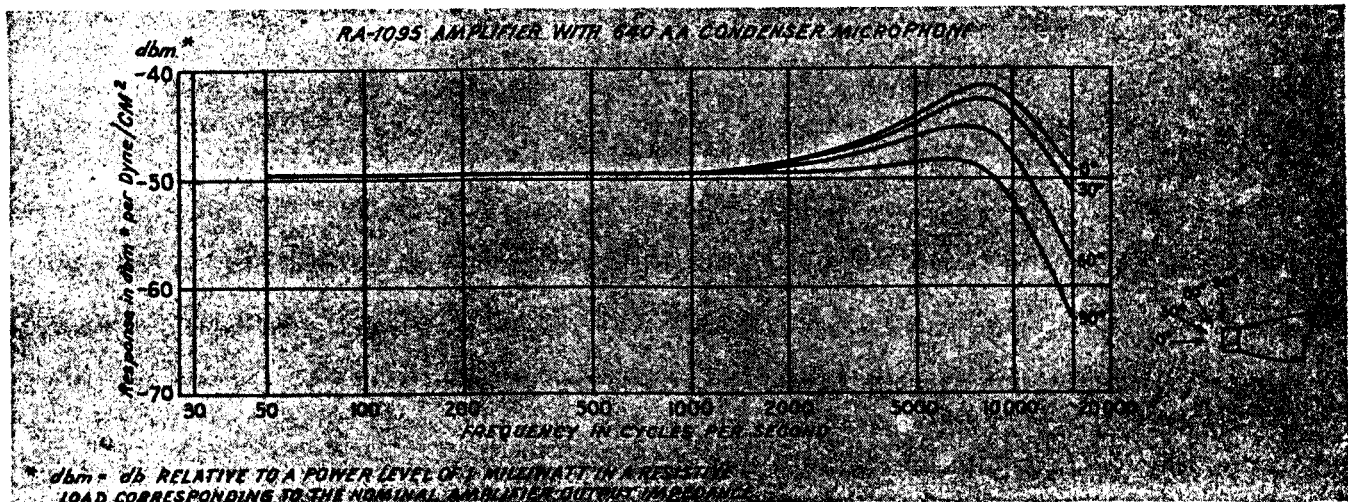

Figure 10 — Typical Free-Field Curve of 640AA Microphone mounted on the RA-1095 Amplifier.
Free-Field Response—See Figure 10.
The free-field response characteristics of the 640AA Microphone mounted on the RA-1095 Amplifier are shown in Figure 10. The difference in shape between the zero degree free-field curve, and the pressure calibration shown in Figure 9, is due almost entirely to diffraction effects which result when the microphone is placed in a free sound field, and not to the amplifier which has practically no effect on the shape of the response characteristic. The range covered, it will be noted, is admirably suited to the highest quality AM or FM program transmission requirements. With the line of sound approach normal, or perpendicular to the plane of the diaphragm, (0 degrees), the response is approximately constant for sounds in the frequency range between 50 and 1,000 cycles per second. Above 1,000 cycles the response rises gradually to a maximum of about 8 db at 8,000 cycles, then drops uniformly to a level which at 15,000 cycles per second is roughly equal to that at 1,000 cycles per second.
As illustrated in Figure 10, the response of the 640AA Microphone varies somewhat in the higher frequencies depending on the direction from which the sound wave approaches the diaphragm.
The output level of this efficient combination for a given sound field is about 28 db higher than the 639 type high quality studio microphones and the signal-to-noise ratio compares favorably (see specifications). The frequency response characteristic of the amplifier is such as to assure optimum results from the use of the 640AA Microphone as an ultra-faithful pick-up device. The free-field frequency response characteristics for the combination are shown in Figure 10.
**Frequency Response:** See Curve Figure 10.